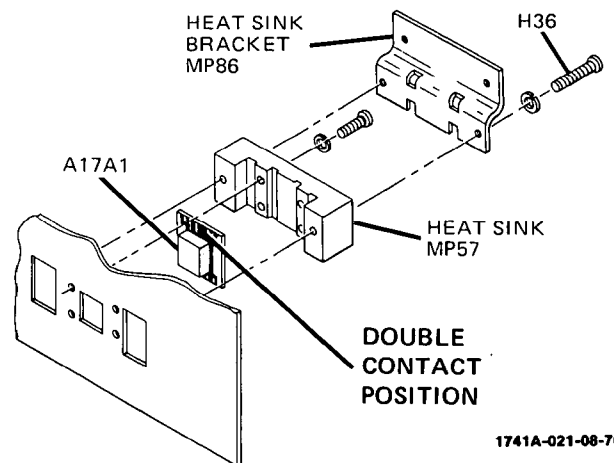

Figure 8-5. A17A1 Assembly Removal
8-20. VERTICAL OUTPUT AMPLIFIER IC A17A1 REMOVAL. To remove A17A1, see figure 8-5 and proceed as follows:
- d. To reinstall A17A1, reverse removal procedure, being certain to orient A17A1 properly with A17 (see figure 8-5).